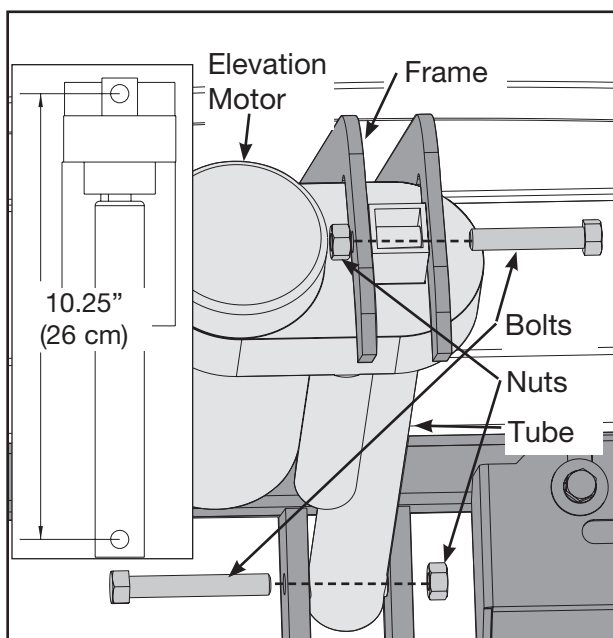

Figure 19
- B. Turn the tube with your fingers until it measures 10.25" (26 cm) from the center of the top hole to the center of the bottom hole. See Figure 19.
- A.** Carefully place the elevation motor in position on the treadmill. See Figure 19.
- B.** Slide both bolts into the slots and attached the hex nuts as shown in Figure 19.